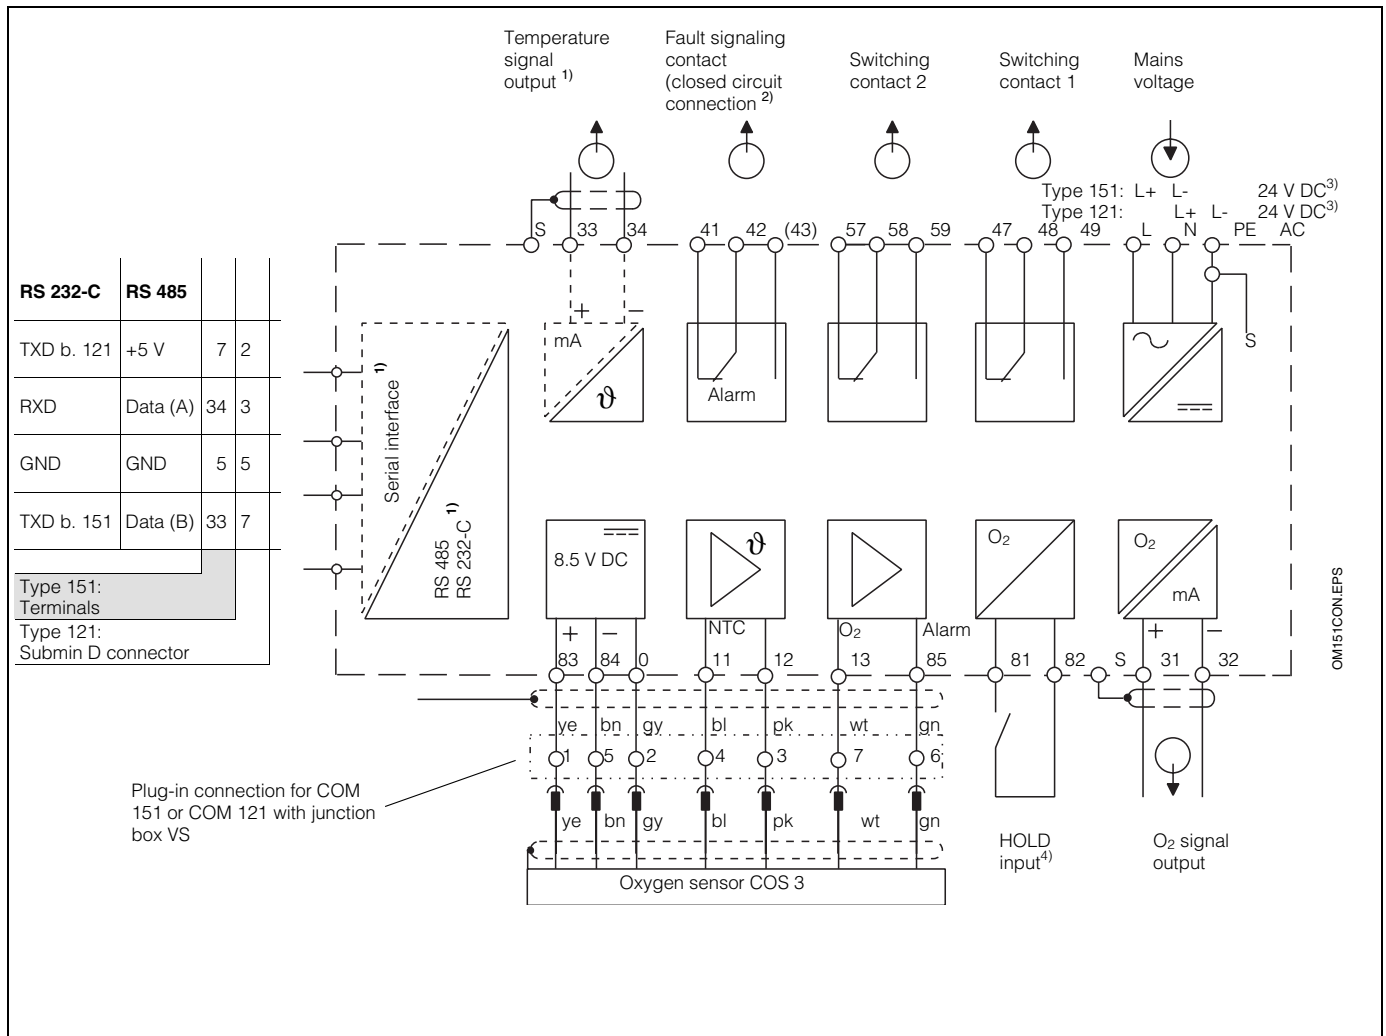

Fig. 4.11: Electrical connection of Mycom COM 121 / 151
- Connect the instrument according to the connection diagram (see fig. 4.11). Signal cables must be spatially separated from mains and power cables.